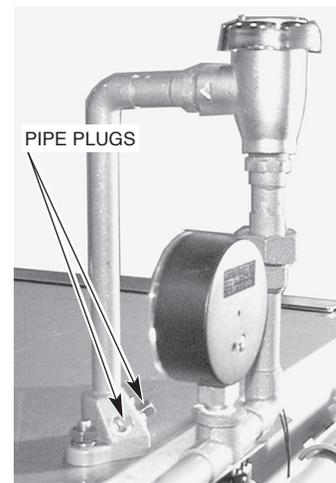
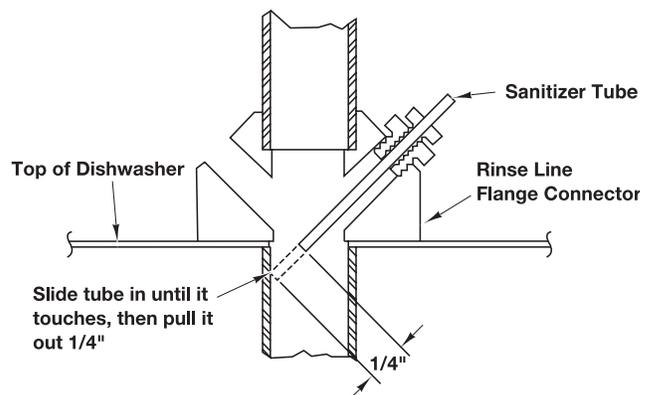

Fig. 20
Fig. 21
The rinse line flange connector on top of the dishwasher has two $\frac{1}{8}$ " NPT pipe plugs (Fig. 20).
- Remove the plug(s) (Fig. 20) for installation of the rinse aid dispenser tube and / or chemical sanitizer tube, as needed.
- Remove the pipe plug (Fig. 20) for installation of the chemical sanitizer tube. To assure an unobstructed flow of sanitizer, locate the sanitizer tube in the center of water flow by drilling the sanitizer tube fitting so that its inside diameter is equal to the outside diameter of the tube. Slide the tube into the flange until it touches the opposite side and then pull it back out $\frac{1}{4}$ inch (Fig. 21).